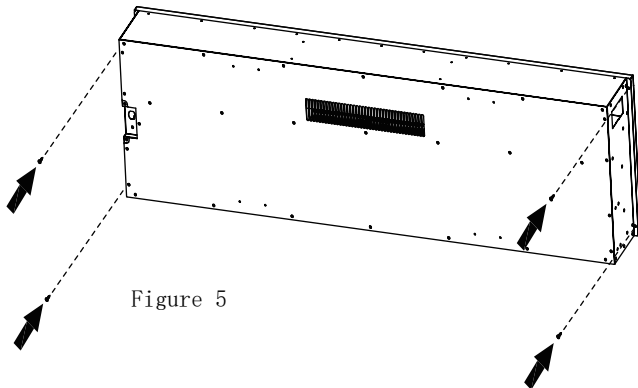

Figure 5
(5) Do the reverse to reset everything. (Figure 5)